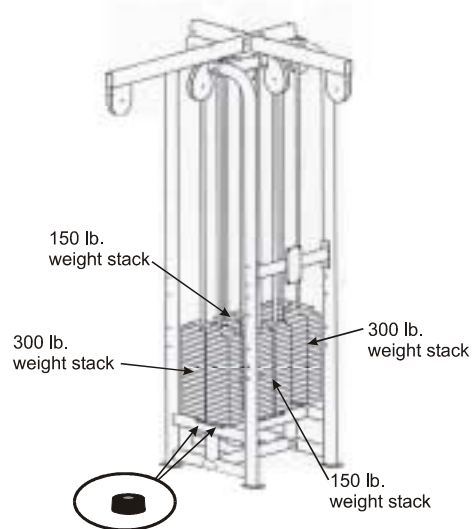
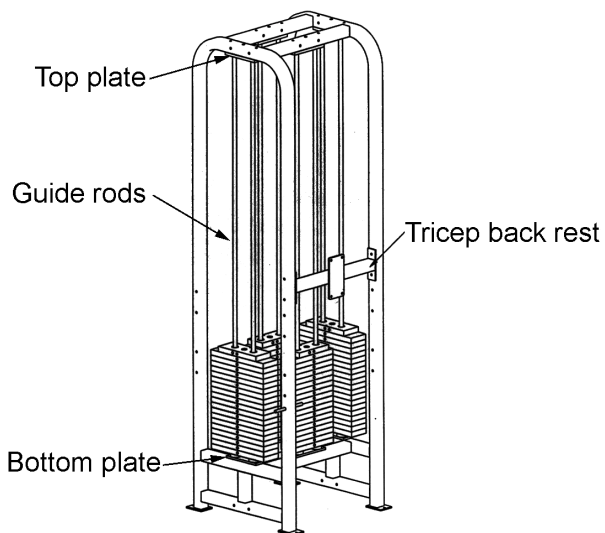

Figure 8. Mount rubber bumpers and the weight stacks.
Figure 9. Remove the tricep back rest, the top plate and the guide rods.
- A. Using a 9/16" socket and combination wrench, remove the tricep back rest bolts (see Figure 9).
- B. Using a 9/16" socket and combination wrench, unbolt the top plate and remove the guide rods (see Figure 9).
- C. **Prepare the weight stack.** Slide the guide rods (2) through the weight stacks (1) as shown below. Place rubber bumpers (3) on the bottoms of each guide rod. Make sure the pull pin (4) is in the bottom weight plate.
- E. **Set the weight stacks onto the machine.** Using a piano dolly, lift the weight stacks over the bottom plate and set the stacks onto the rubber bumpers with the plate numbers facing outward. The 300 lb weight stacks need to be facing the “sides” of the cells (where the benches will be attached- number 8 in Figure 9). The 190 lb weight stacks will need to be facing the “outsides” and “insides” of the cells (where the tricep pulleys and crossover pulleys will be attached- number 9 in Figure 8). Make sure the pull pins are facing outward.